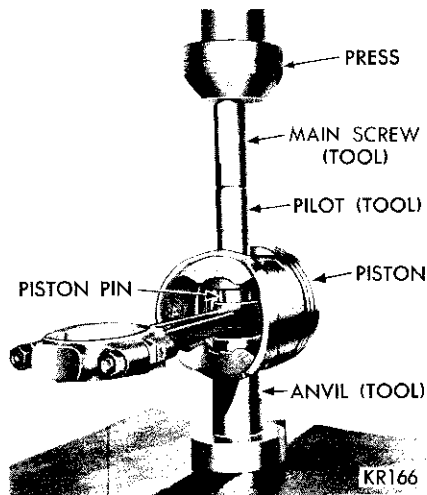

Fig. 39—Removing Piston Pin Using Tool C-3684
(5) Install nut loosely on the main screw and place the assembly on a press, as shown in Figure 39.
(6) Press the piston pin out of the connecting rod.